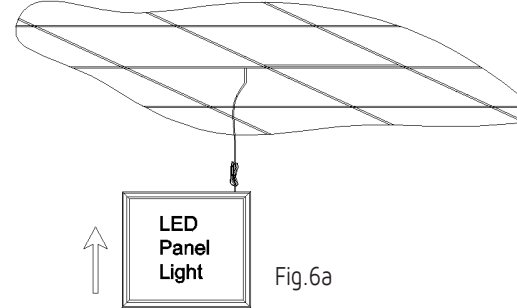
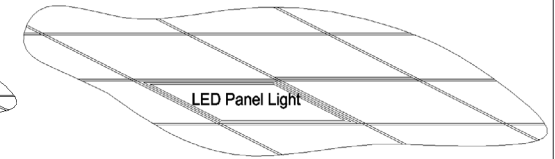

Fig.6a
Fig.6b
**Step 4:** Move LED Panel into the ceiling aperture and ensure the LED Panel is mounted securely, Fig.6a. Finally, turn on the mains supply to check the panel is working correctly, Fig.6b.